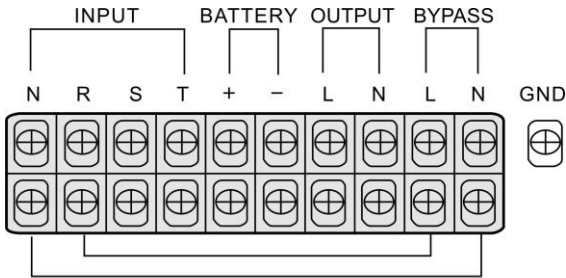

Figure 14
2. Connection way and position, please refer to figure 14.